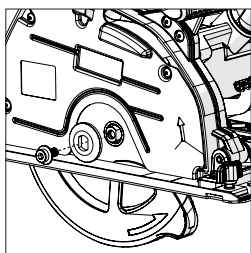

Fig. 5
- Remove and safely store the blade bolt and outer flange. **(Fig.5)**